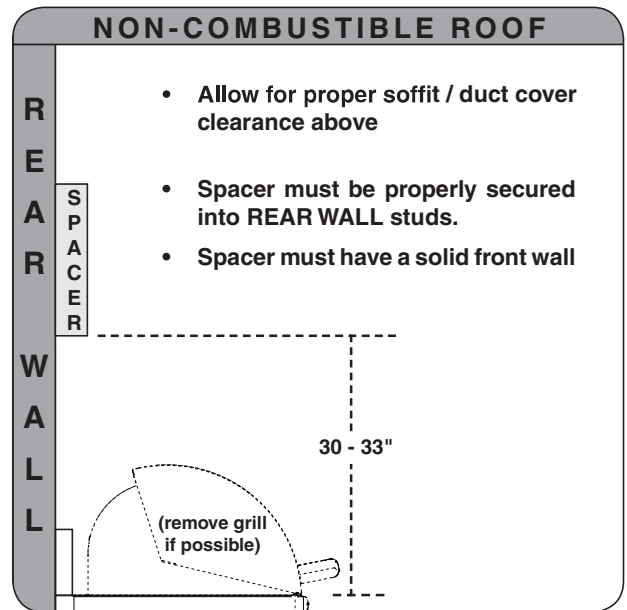

Fig. 12-1 Custom spacer orientation
**The spacer should be installed 30-33" above the grill, centered, and level. See Fig. 12-1.**